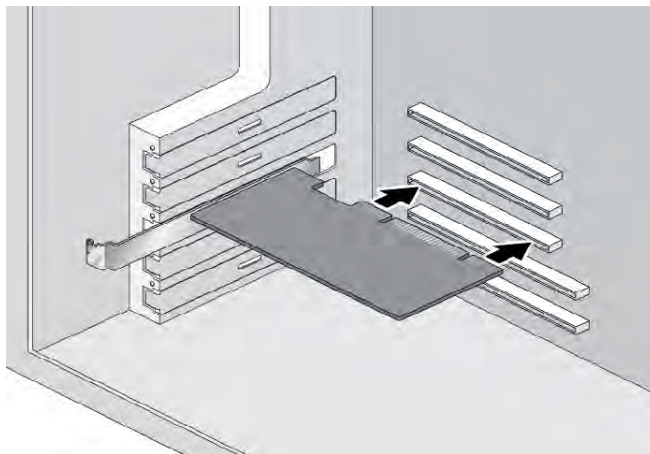

Figure 10. Inserting the Adapter with a High-profile Bracket
8. On the inside of the computer chassis, push the media converter card until it is firmly seated in the appropriate PCI slot by applying even pressure at both corners of the card. See Figure 10. Make sure the card is securely seated.